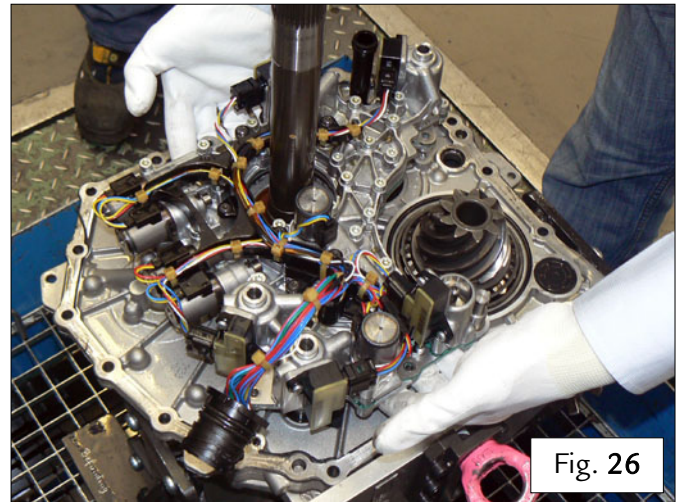

Fig. 26
- Remove the SAP from the gearbox, lifting upwards, and replace – Fig. 26.